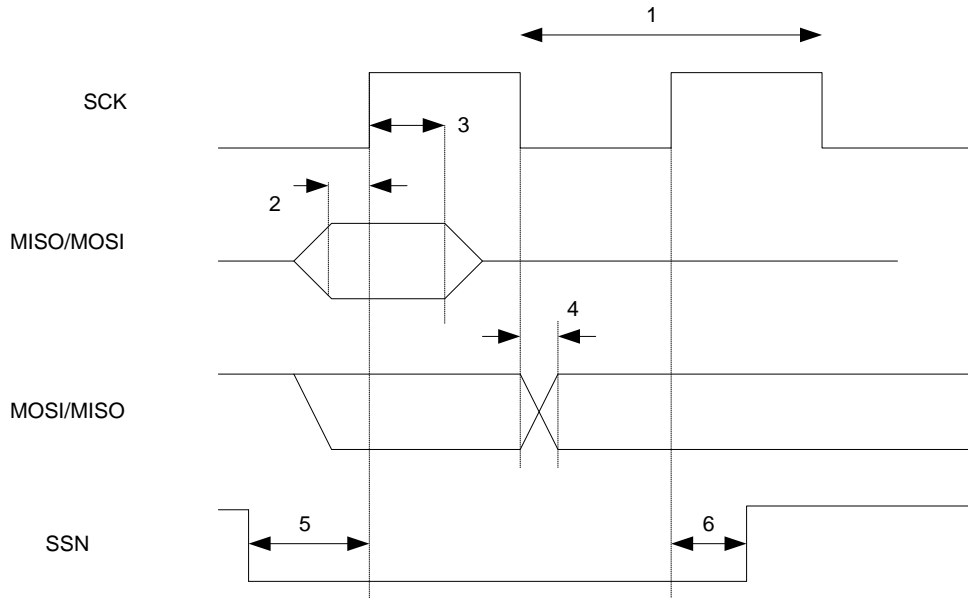

Figure 5: SPI AC Characteristics
| SCK period | | See Section 12.14.3 | | ns | Master. See item 1, Figure 5 |
| SSN low to SCK | 2·t _{SYSCLK} | | | | See item 5, Figure 5 |
| SCK to SSN high | 30 | | | ns | See item 6, Figure 5 |
| MISO setup | 10 | | | ns | Master. See item 2, Figure 5 |
| MISO hold | 10 | | | ns | Master. See item 3, Figure 5 |
| SCK to MOSI | | | 25 | ns | Master. See item 4, Figure 5, load = 10 pF |
| SCK period | 100 | | | ns | Slave. See item 1, Figure 5 |
| MOSI setup | 10 | | | ns | Slave. See item 2, Figure 5 |
| MOSI hold | 10 | | | ns | Slave. See item 3, Figure 5 |
| SCK to MISO | | | 25 | ns | Slave. See item 4, Figure 5, load = 10 pF |